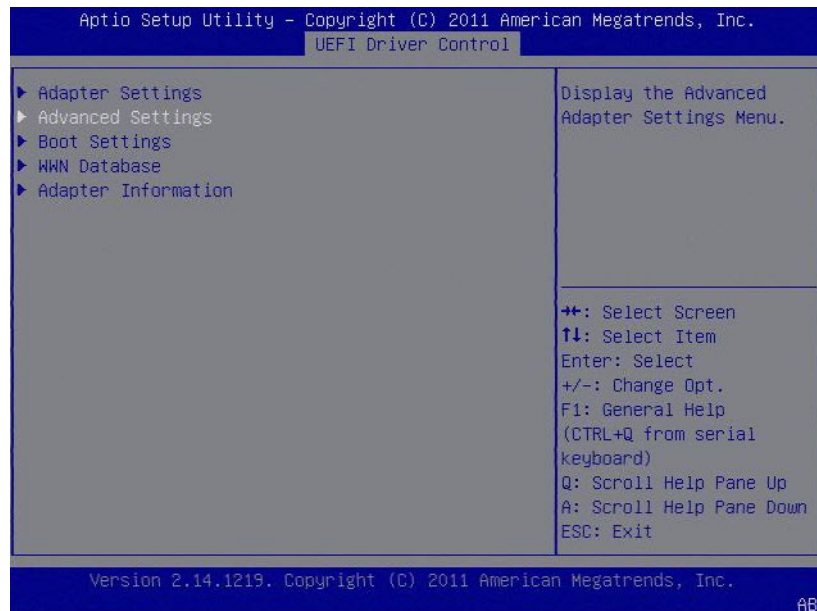

Figure 3-14. Selecting Advanced Settings
4. In the left pane, select **Advanced Settings**, as shown in Figure 3-14.